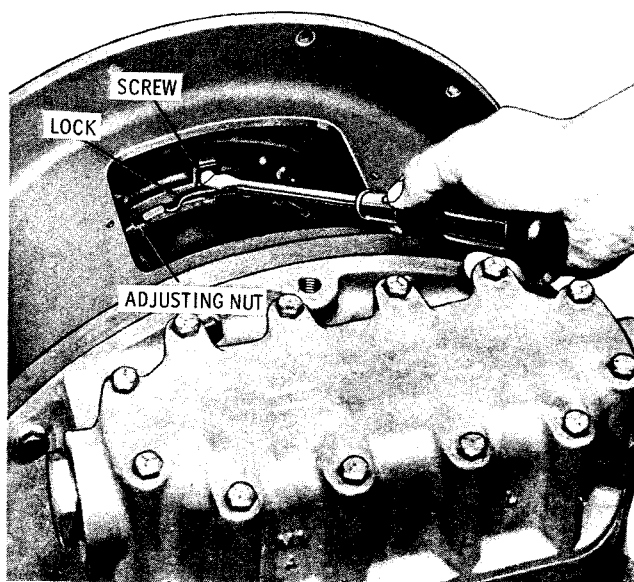

Fig. 3-4. Removing (or installing) clutch adjusting lock
(1) It will be necessary to occasionally adjust the clutch in order to compensate for normal wear. Should the clutch slip, check the effort required to move the clutch lever. This can be done by attaching a spring scale to the apply lever at a point 16 inches from the center of the clutch shifter shaft. The engagement force should be from 40 to 45 pounds.
(2) If the scale reads less than 40 pounds, or more than 45 pounds, the clutch must be adjusted. Remove the cover plate from the housing. Remove the adjusting nut screw and lock (fig. 3-4). If the spring scale reads less than 40 pounds, use a spanner wrench or a hammer and drift to rotate the adjusting nut counterclockwise (standing at the rear of the clutch and facing the engine flywheel end). If the spring scale reads more than 45 pounds, turn the adjusting nut clockwise to reduce the pressure. Replace the adjusting lock and screw.
(3) If the clutch adjustment has been made and the clutch still slips, check the clutch facing and contact surfaces for grease. If grease is found, the entire clutch assembly will have to be removed and all parts thoroughly cleaned. Grease-soaked clutch facing must be replaced.